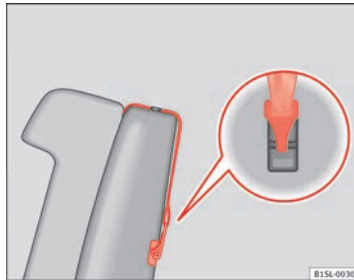

Fig. 54 Example of an upper retaining strap connected.
- Hook the upper retaining strap in the luggage compartment, to the corresponding retaining ring ⇒ Fig. 54.